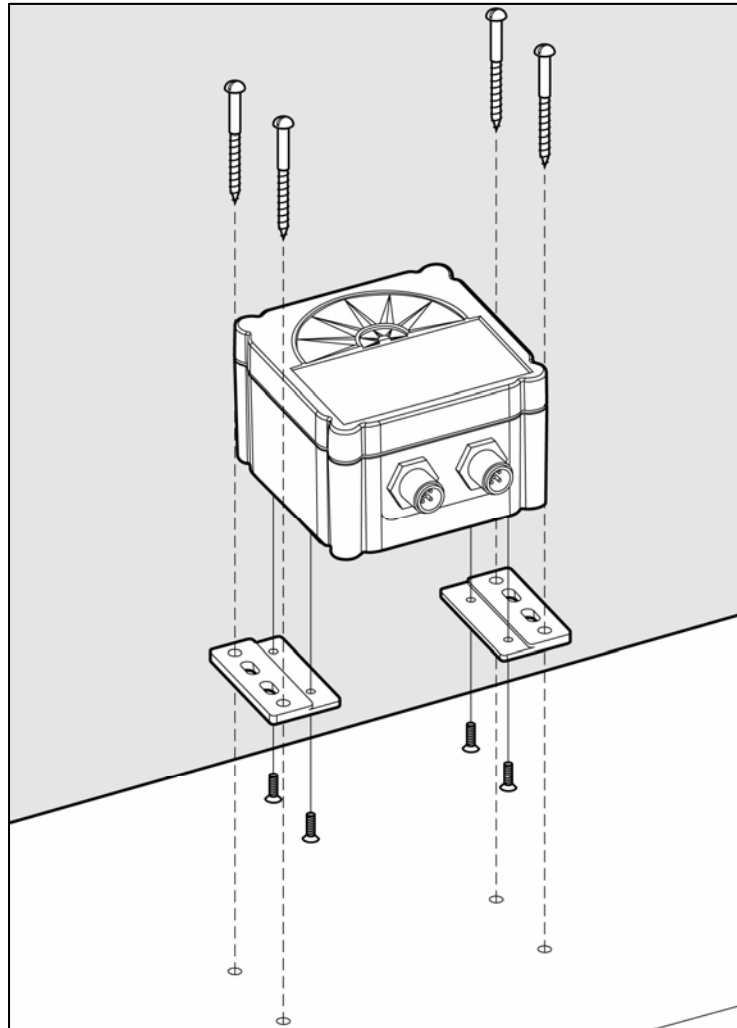

Figure 1 – Mounting the SSC200 to a Horizontal Surface
| Figure 1 – Mounting the SSC200 to a Horizontal Surface | 4 |
Mounting the SSC200 compass to a horizontal surface requires that the provided mounting brackets be fastened to the bottom of the SSC200 using the provided brass flat head screws. Once the mounting brackets are securely fastened to the bottom of the SSC200, attach the SSC200 securely to the vessel using the included brass mounting screws or other non-ferrous fasteners as shown in Figure 1. Do not use threadlocking compounds containing methacrylate ester, such as Loctite Red (271), as they will cause stress cracking of the plastic enclosure.